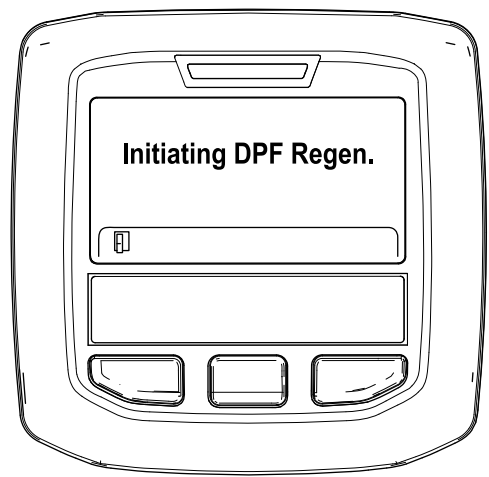

Figure 38
- A. The "Initiating DPF Regen." message displays (Figure 38).